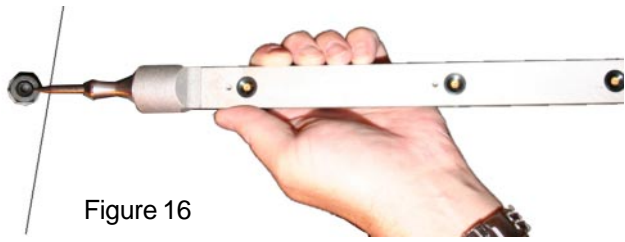

Figure 16
- If the point is a bolt head, stud, threaded end of bolt or a rivet, measure to the center of the tip of the point, as shown below. See Figures 16 and 17.